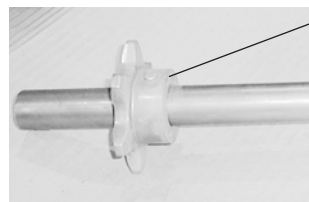

Figure 17. Installing the Headshaft
2. Drive the press fit sprocket pin into the hole provided in the headshaft (Figure 17), or install the sprocket key if the unit is so equipped.